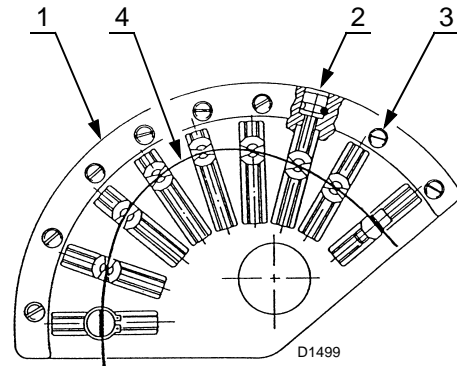

Fig. 29
Use the adjusters 2)(Fig. 29) after loosening the screws 3).
Key (Fig. 29)
- 6 Calibrate the air delivery by adjusting the variable profile cam with the screws 2)(Fig. 29).
- 9 With the optimal adjustment achieved, remember to lock the adjustment screws of the cam profiles by means of screws 3)(Fig. 29).